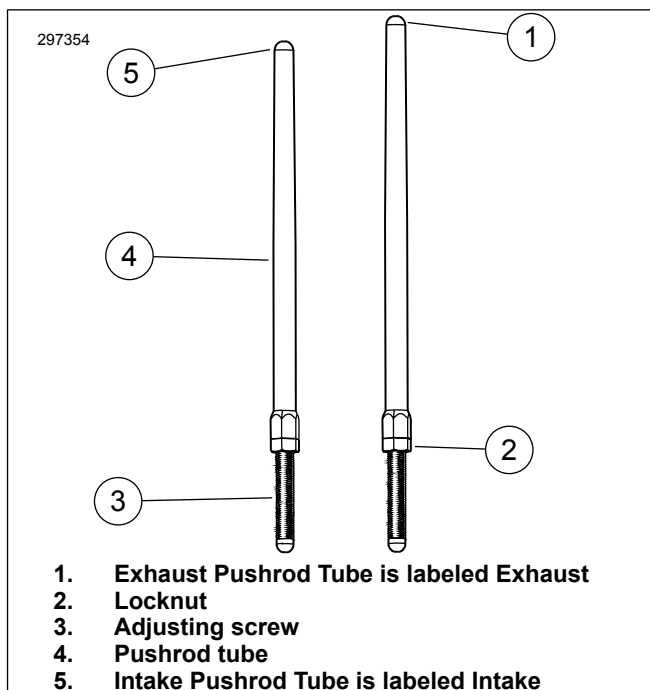

Figure 1. Adjustable Pushrod
6. See Figure 1. Loosen locknut on all of the pushrods and adjust them to their shortest length.